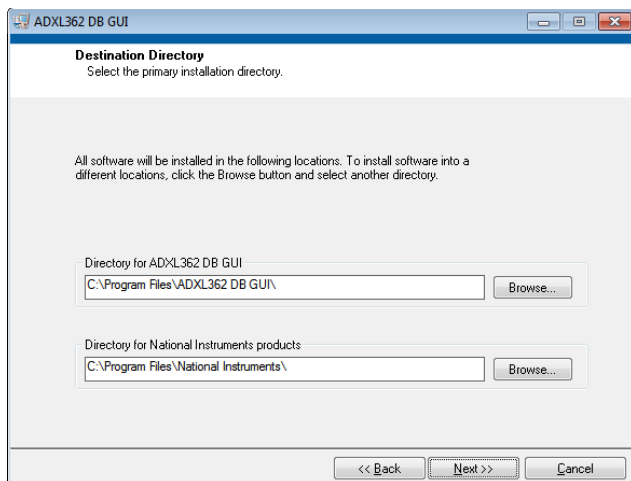

Figure 22. Destination Directory Selection
The software GUI installation has been created to include any required National Instruments drivers and run-time engines that are necessary for proper operation. To run the software GUI installation routine, double-click the **setup.exe** file located in the **/ADXL362 DB GUI Installer/** folder on the included CD. Windows 7 may request that you allow access to this software. Then, the window shown in Figure 22 is displayed.
1. Select the destination directory. The installer autopopulates the names of the directories in which to store the software GUI and required National Instruments products (See Figure 22). You can change these directories; however, most installations can proceed with the default values.